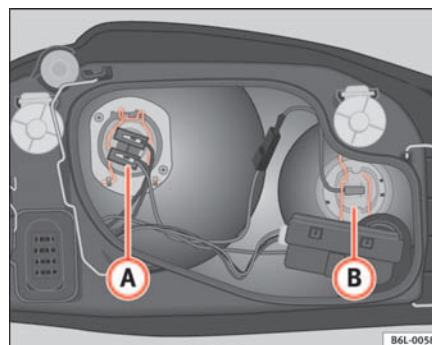

Fig. 141 Dipped headlight lamp
- Remove the lamp cable connector (A) ⇒ fig. 141.